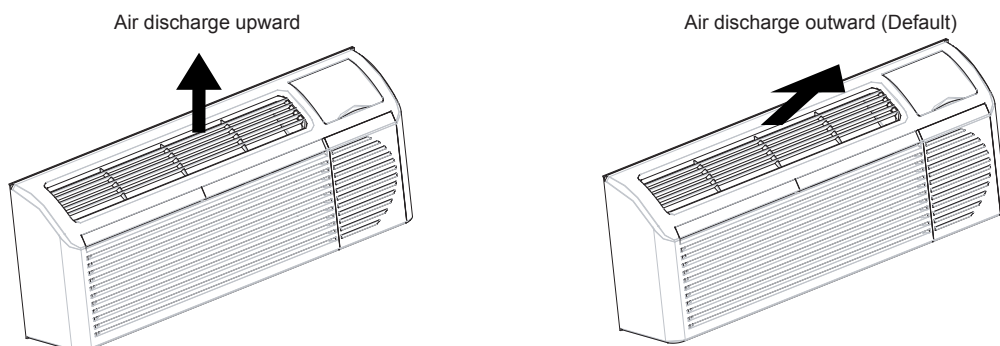

Fig.19-Adjusting Louvers
3. Turn louver insert and rotate 180°. See Fig. 19.